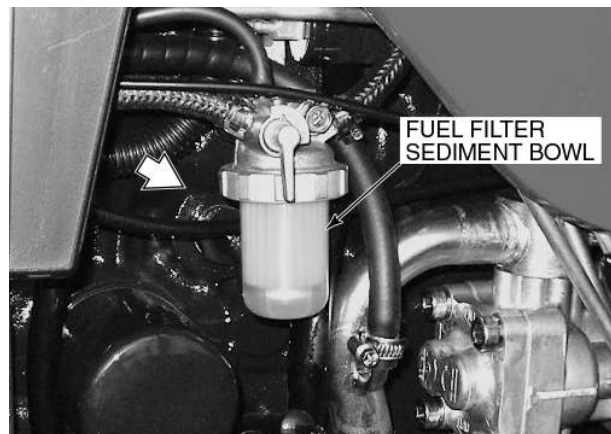

Figure 52 - Fuel Filter
1. Be sure there is adequate fuel in the fuel tank, close the fuel shut-off valve, then remove the fuel sediment bowl, Figure 52.
1. Close the shut-off valve, Figure 52.
2. Remove the sediment bowl, Figure 52.